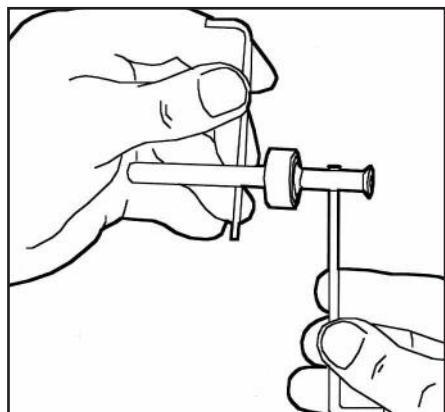

Figure 22
16. PO4-6S/8S: Pull out the middle and lower poppet stems, and poppet body. The poppet stem connector bolt will remain in one of the stems. (Fig.22)